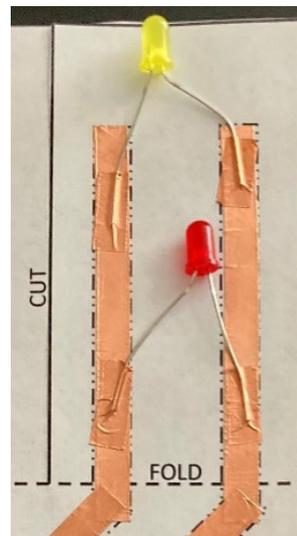

Figure 6. Use the 0.5" pieces of copper tape over the LED leads to connect the LEDs to the circuit.
6. Look at the LEDs. You can add one or both to the helicopter. See *Figure 6* for placement. The LED wires will connect the two copper tape strips, completing the circuit. Note that each color LED needs a different amount of electricity, so it is best to have both LEDs the same color. It is possible to use two different colors, but you will have to experiment with color combinations to see which colors work best.
8. Bend the wires outward so that each wire overlaps one of the copper tape lines on the helicopter blade. See *Figure 6* for an illustration. The circuit shown is a parallel circuit so that electricity can flow through each LED independently.
9. Place the LED with the long wire to the left and the short wire to the right. Use 0.5" pieces of copper tape to connect each wire to the appropriate strip of copper tape (see *Figure 6*).